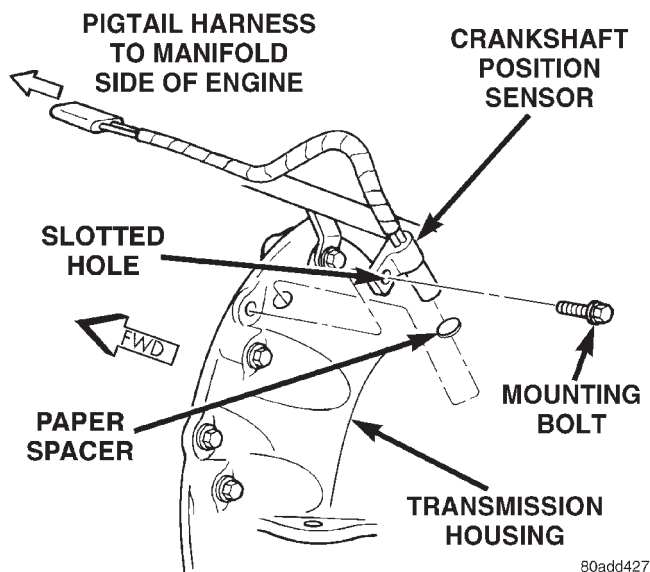
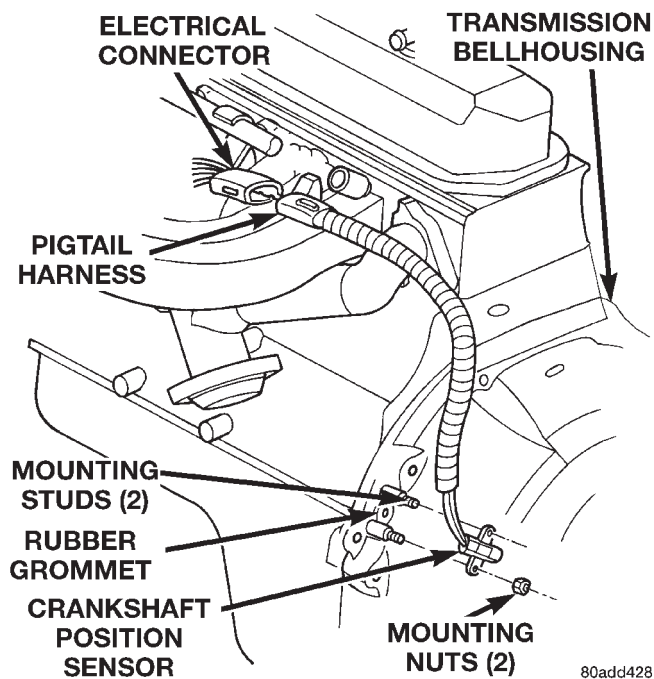
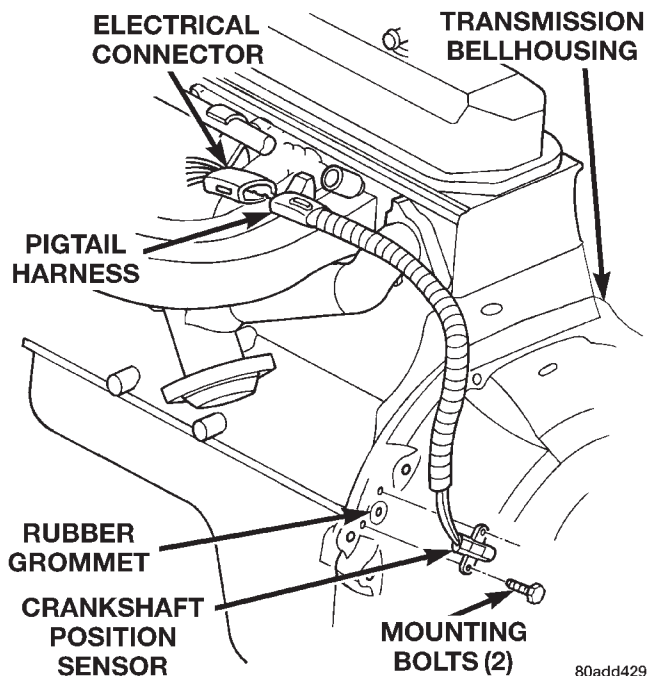

Fig. 3 Crankshaft Position Sensor—4.0L 6-Cyl. Engine—Auto. Trans.
Fig. 4 Crankshaft Position Sensor—2.5L 4-Cyl. Engine—Auto. Trans.
Fig. 5 Crankshaft Position Sensor—Manual Transmission (Typical)
(4) If equipped, unsnap plastic cover from B+ terminal.
(5) Remove B+ terminal mounting nut at rear of generator (Fig. 3). Disconnect terminal from generator.
(6) Disconnect field wire connector at rear of generator by pushing on connector tab.
(7) Remove generator from vehicle.
The crankshaft position sensor is mounted to the transmission bellhousing at the left/rear side of the engine block (Fig. 3), (Fig. 4), or (Fig. 5).